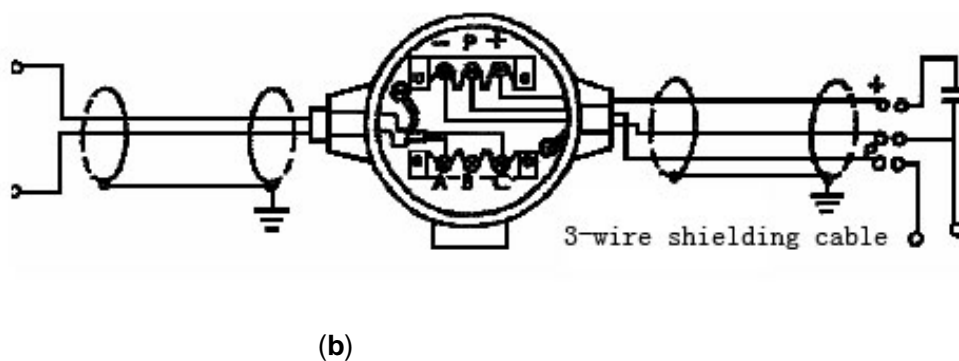

Figure 8-3 KF500/TBS-I Wiring connection Diagram
(2). If simultaneous application of both a flow pulse signal and a standard DC signal is required, connect the wires as per Figure 8-3(b).
(3). In case that only single output flow pulse signal is required, make the lead wire at the left end of Figure 8-3(b) not connected.
(4). In case that only single output flow standard DC signal is required, make the lead wire P at the right end of Figure 8-3(b) not connected.